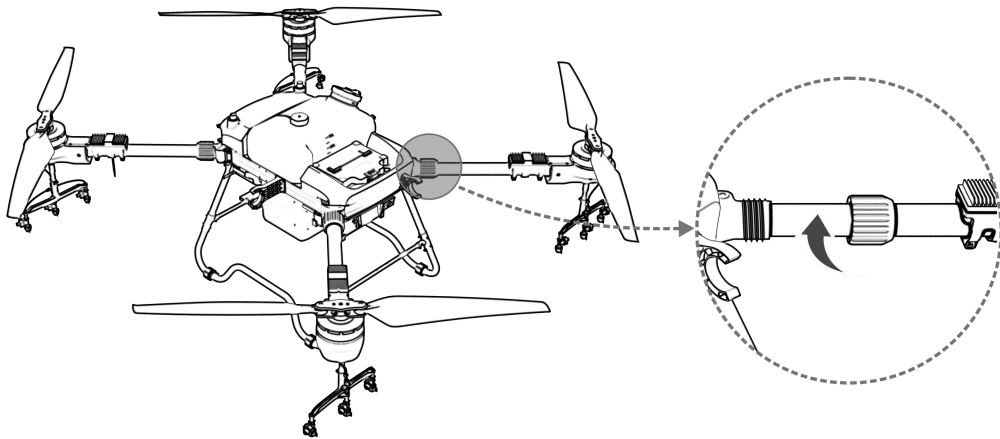

Figure 1-4-4 Arms Unfolded
**Step 4:** Tighten the arm sleeves as shown in Figure 1-4-4.